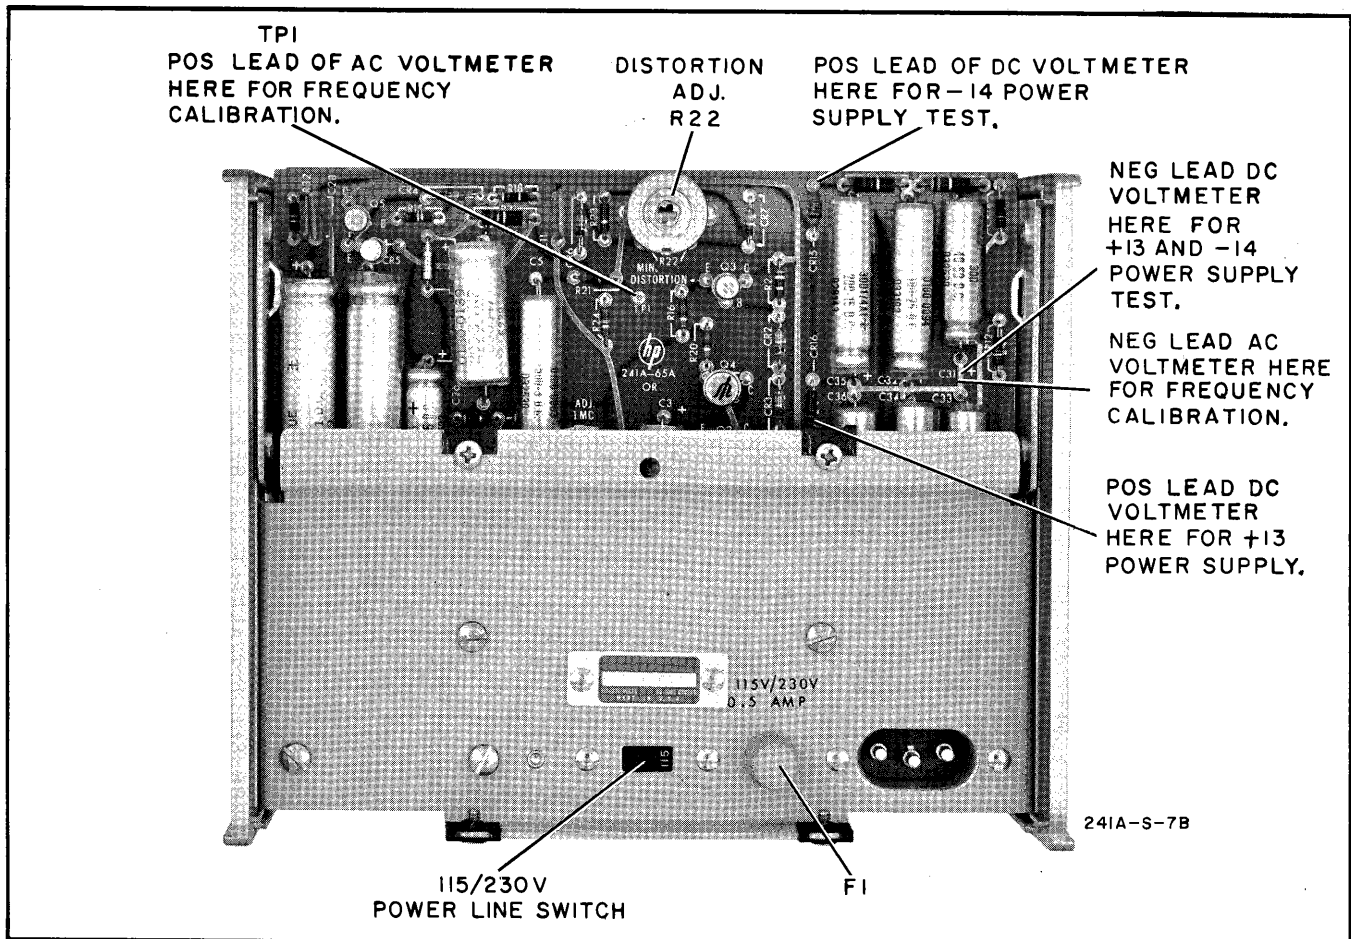

Figure 5-4. Rear View
- b. Measure +13 volt supply using a DC Voltmeter (Ⓢ Model 412A); connect the common lead to the junction of C31, C32, and C33 and the volts probe to the cathode of CR16. (Refer to Figure 5-4.)
- f. Connect common lead of DC Voltmeter to the junction of C33 and C34, Volts probe to the anode of CR15 (see Figure 5-4).
- c. Connect common lead of an AC Voltmeter (Ⓢ Model 400H) to the junction of C33 and C32, positive lead to Test Point TP1 (See Figure 5-4.)
- g. Adjust R22 (see Figure 5-4) for a minimum reading on the Distortion Analyzer.